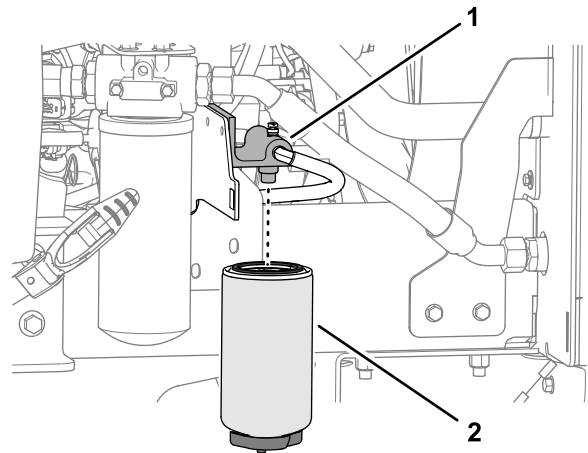

Figure 58
1. Place a clean container under the fuel filter canister (Figure 58).
3. Clean the area around the fuel filter and filter head (Figure 58).
4. Remove the filter canister and clean the filter head (Figure 58).